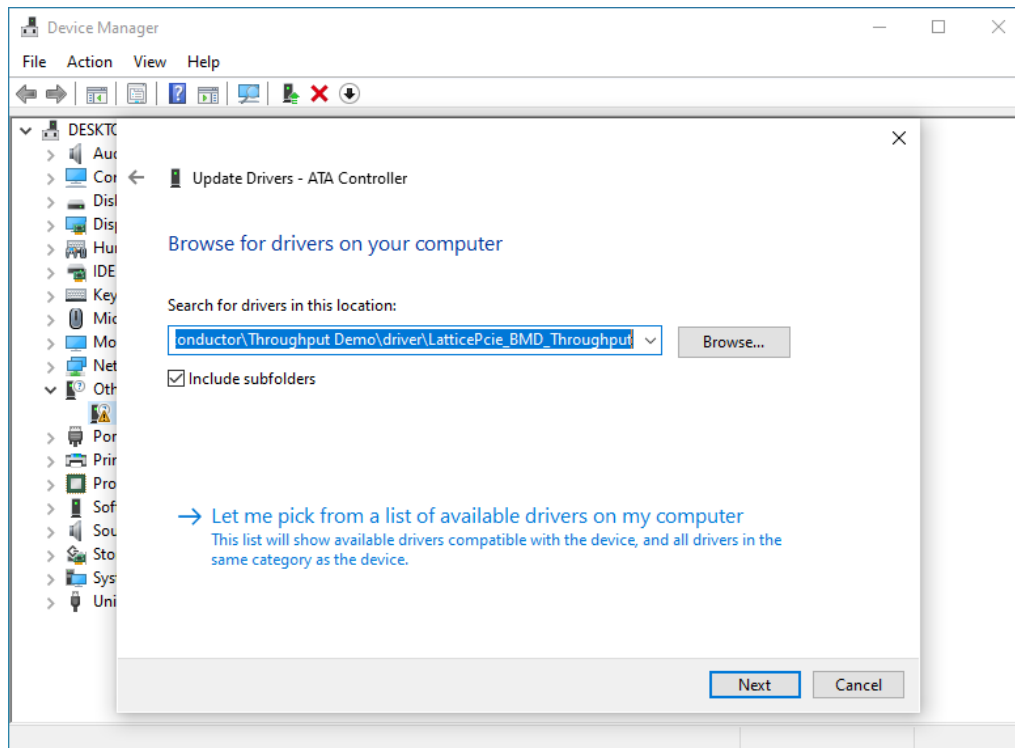

Figure 3.38. Browse the Driver for Device
6. Browse for the DMA Throughput Demo device driver as shown in Figure 3.38.